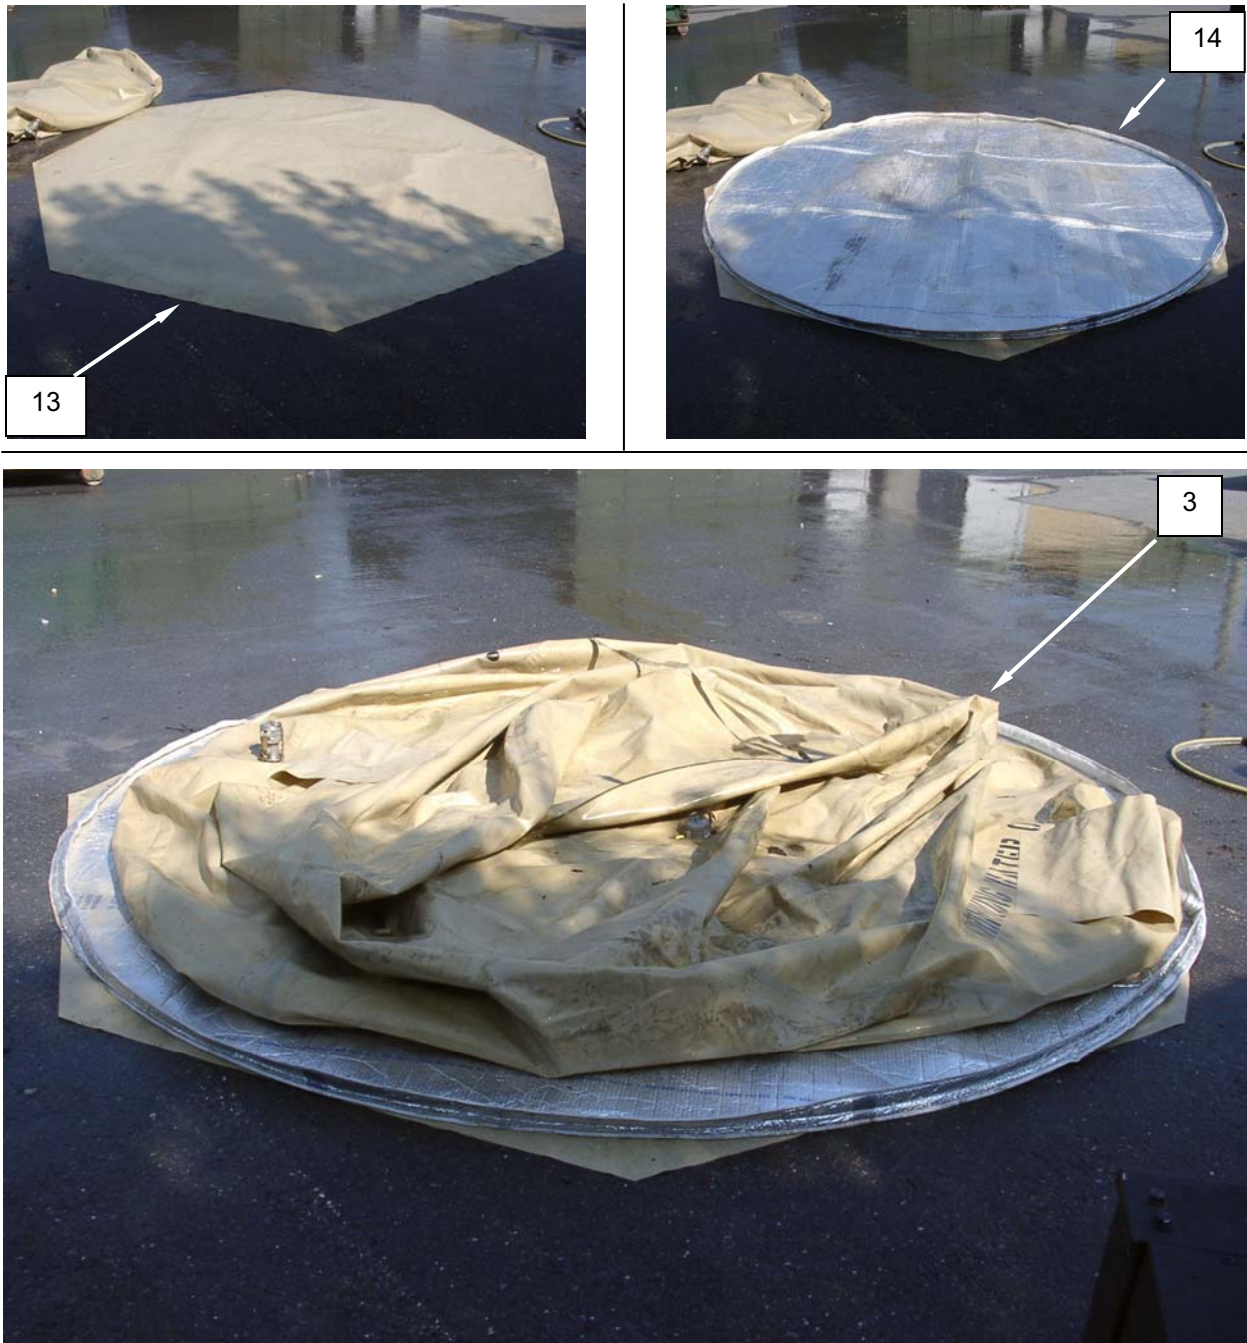

Figure 4. Set Up the Source Water 3000-Gallon Water Tank.
The water tank shown in Figure 4 is fitted with the bottom section of the insulating jacket. This must be fitted before the tank is placed into operation regardless of ambient temperature.
1. Lay out the liner (**Figure 4, Item 13**) and insulated base (**Figure 4, Item 14**) at the intended site of the 3,000 gallon fabric water bag (**Figure 4, Item 3**).